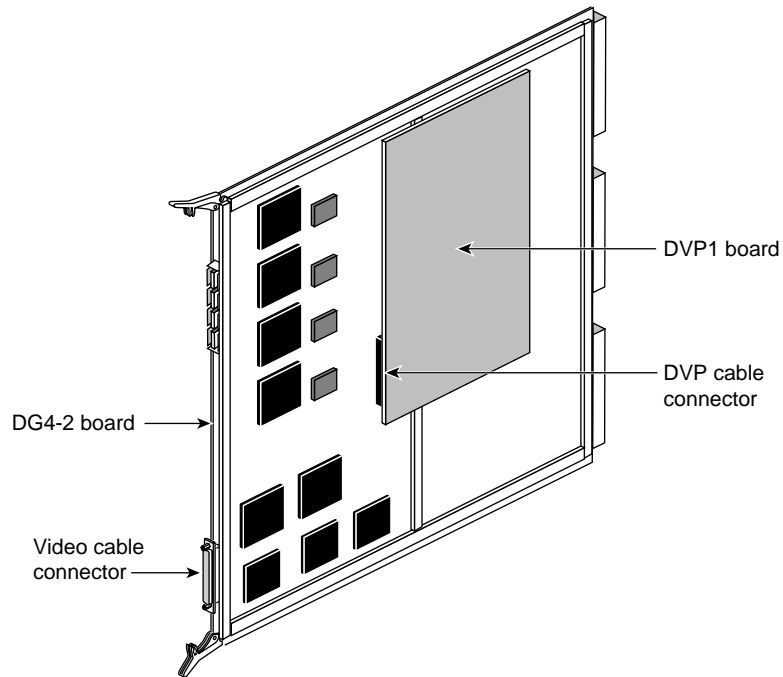

Figure 1-1 Digital Display Option Board Set
- Figure 1-1 Digital Display Option Board Set 1-2**
- Figure 1-1 Digital Display Option Kit 1-3**
The DDO board set is installed in the same chassis slot as the original DG4 board. An internal DVP cable connects the DDO board set to an external CrayLink cable via the DVP I/O panel connector. The CrayLink cable is connected to specialized, digital imagery equipment that allows high-resolution graphics emulation. Figure 1-1 shows the DDO board set and its connectors.